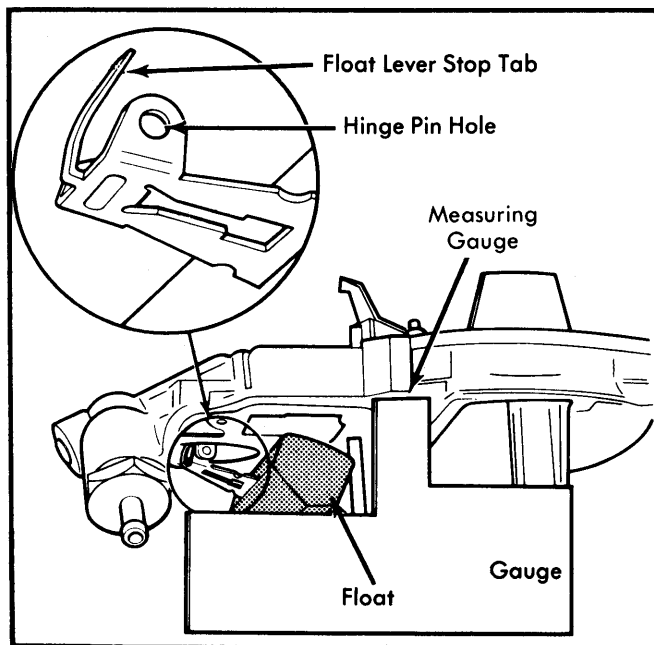

Fig. 3 Adjusting Float Drop
- 1) With upper body removed, hold in upright position and allow floats to hang by their own weight. See Fig. 3.